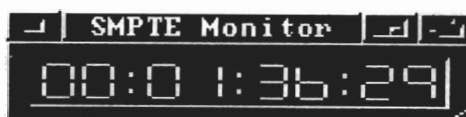

Figure 1. SMPTE Monitor
- Description: The SMPTE Monitor allows you to view incoming external or internal SMPTE time code. It is useful for viewing the value of external time code coming into a card, Figure 1. This module can allow you to do pencil edits without having to record a SMPTE window box on video tape. If you own a genlock, you can use this module to produce a SMPTE window dub. Select Hide Title Bar from the SMPTE Monitor Menu.